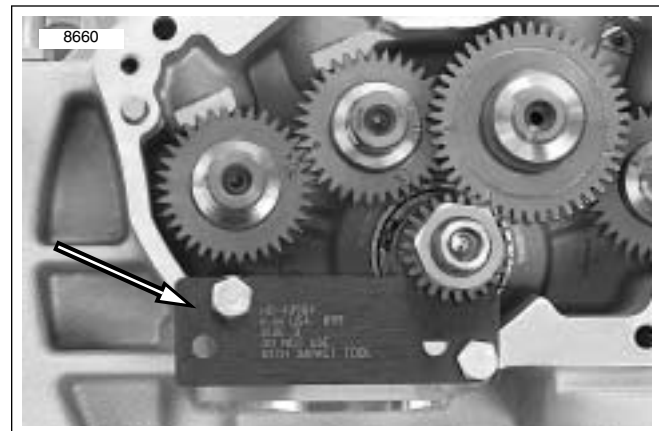

Figure 3-130. Crankshaft Locking Tool
- b. See Figure 3-130. Install CRANKSHAFT LOCKING TOOL (Part No. HD-43984) to gearcase with "Side B" facing out, over pinion shaft, with two screws.